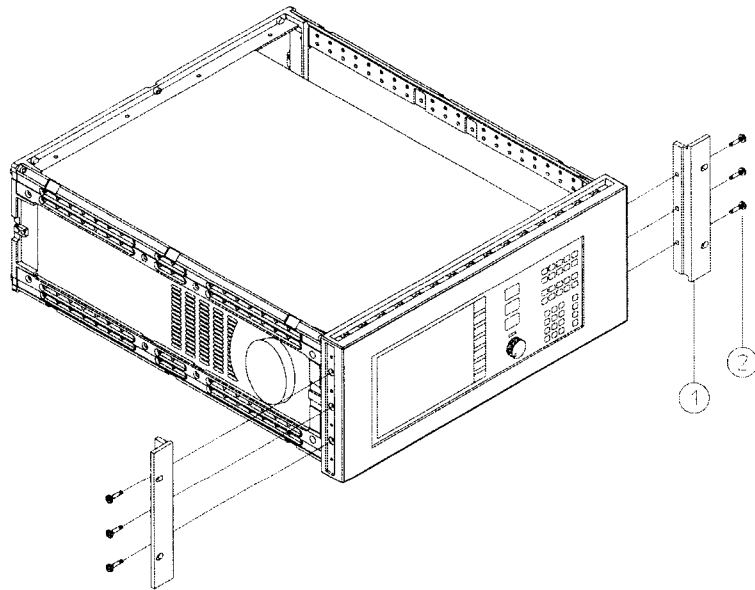

Figure 4
- 15.** Place the instrument in its operating position. See Figure 4. The rack flanges (1) mount directly to the rack frame using six M4 x 0.7 10 mm pan-head screws (2).